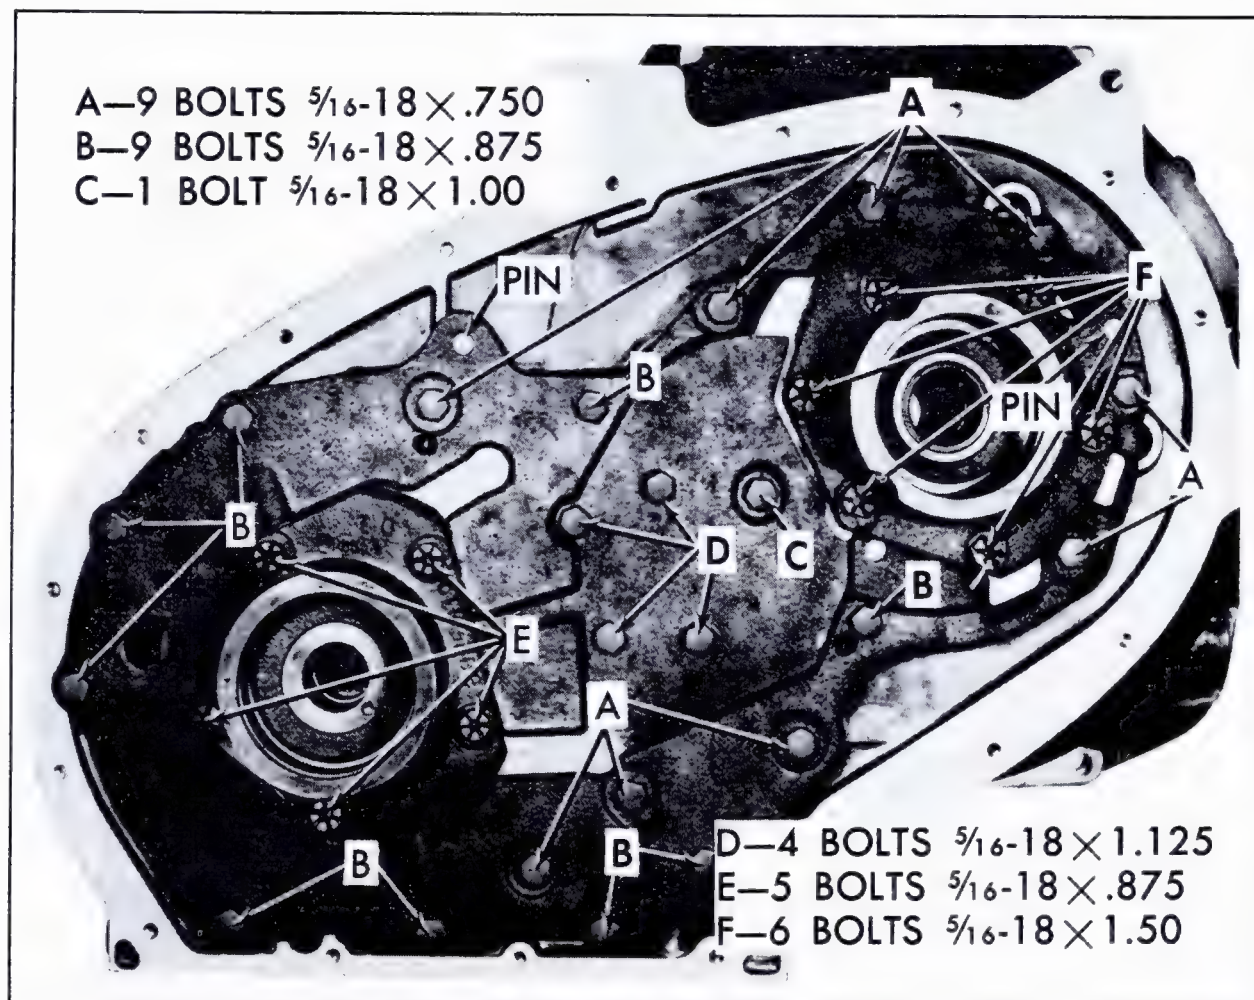

Fig. 7-208 Pump Cover Plate Bolt Chart
2. Install pump cover plate on transmission and install attaching bolts per bolt chart, Fig. 7-208.
c. Install six retaining bolts (F), finger tight, Fig. 7-208.